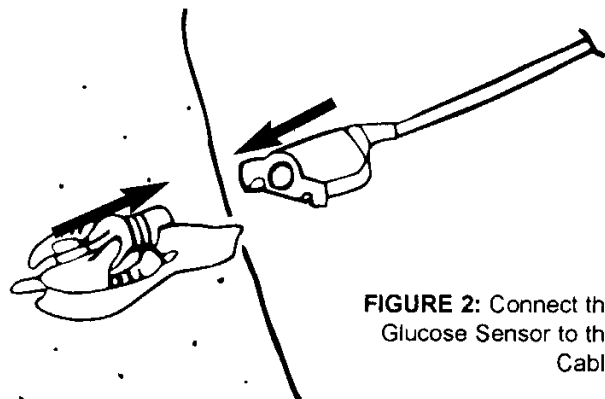

FIGURE 2: Connect the Glucose Sensor to the Cable
2. **How to connect the Glucose Sensor to the Transmitter Cable:** Grasp the Sensor Assembly Base between the thumb and forefinger to prevent movement after sensor is inserted. Hold the Sensor Connector in the other hand. Orient the Sensor connector so that the two connectors align in close proximity. Plug the Glucose Sensor Assembly into the Sensor Connector. Press the parts together until the snap arms on the Glucose Sensor Assembly engage with a click (Figure 2).